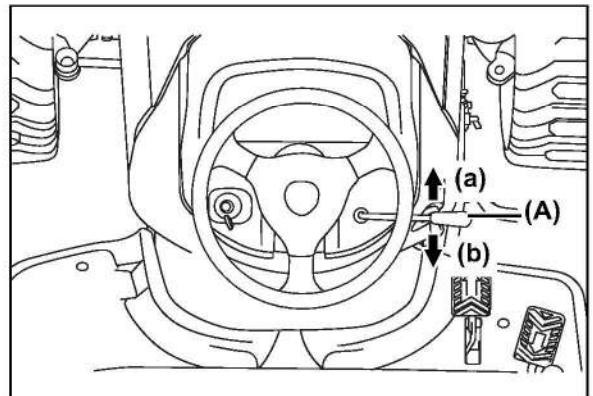

Fig 5-20
#### (3) Throttle control lever (Fig 5-20)